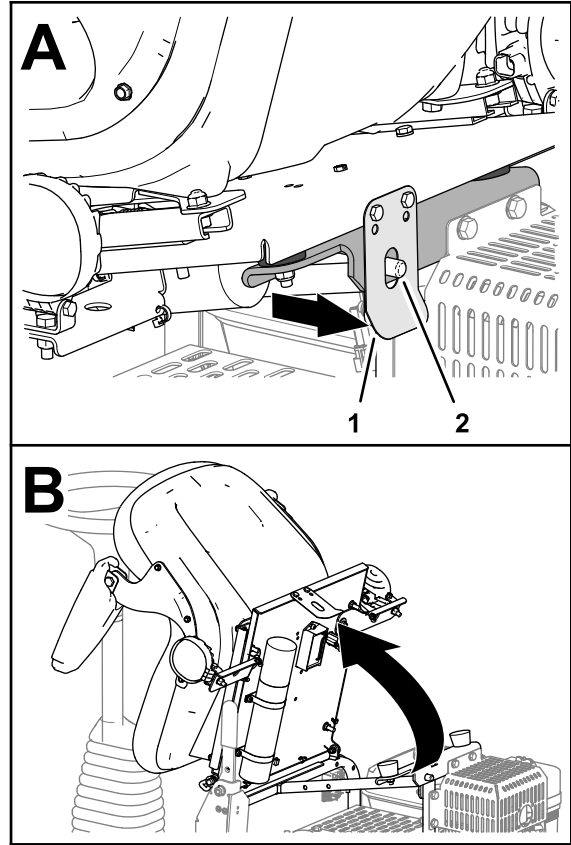

Figure 24
1. Pull back the seat latch until it clears the seat-latch pin (Figure 24).
2. Tilt the seat forward (Figure 24).